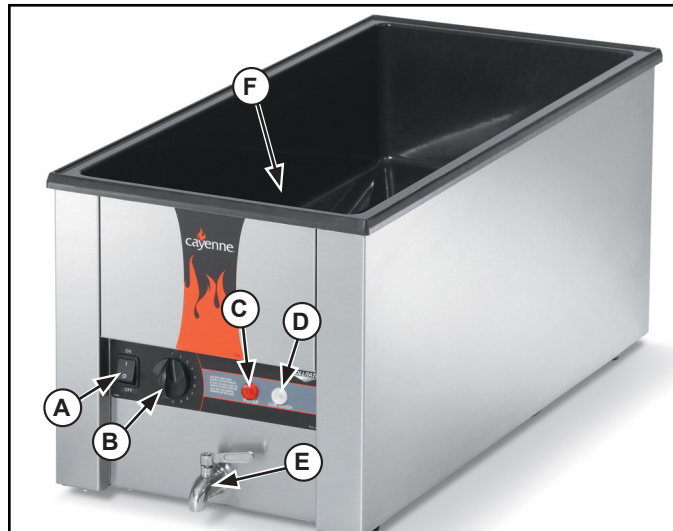

Figure 1. Features and Controls for Countertop Model.
1. Fill the well to the correct level water mark (F) with clean fresh water. Correct level is about 1" (2.5 CM) of water. Do not over fill. See Figure 1.
2. Tighten the thumbscrews (G) slowly and in an alternating pattern to evenly compress the gasket. See Figure 1. The gasket should create a 1/8" (3 mm) gap between the well and the mounting surface.